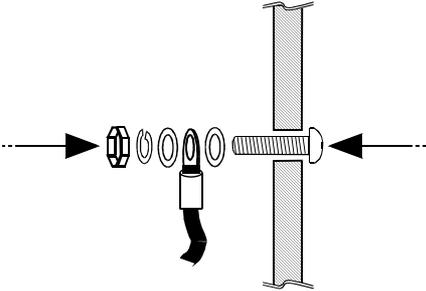

Figure 5. Earth Assembly
- d. On the screw's shank, place the following hardware in this order: washer, ring cable shoe, second washer, spring, and nut; as shown in Figure 5, page 13.